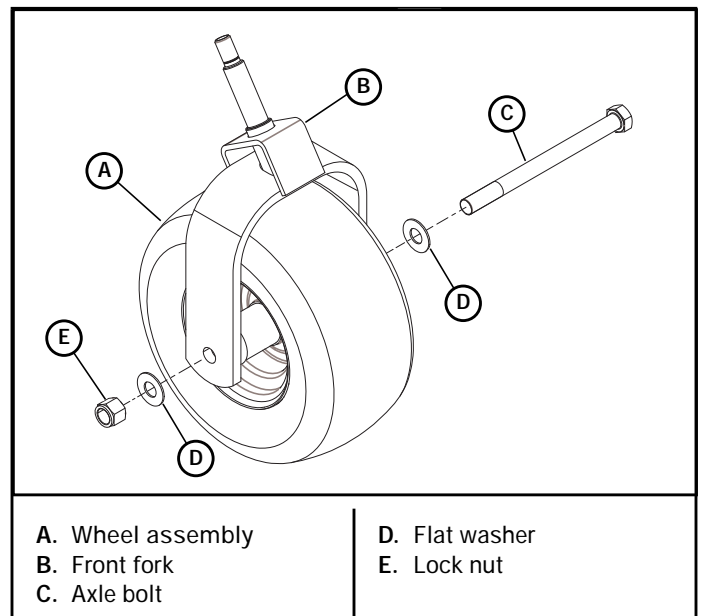

Figure 6-34
7. Slide the wheel assembly between the caster fork legs and assemble to the fork using the axle bolt, flat washers, and lock nut. Figure 6-34